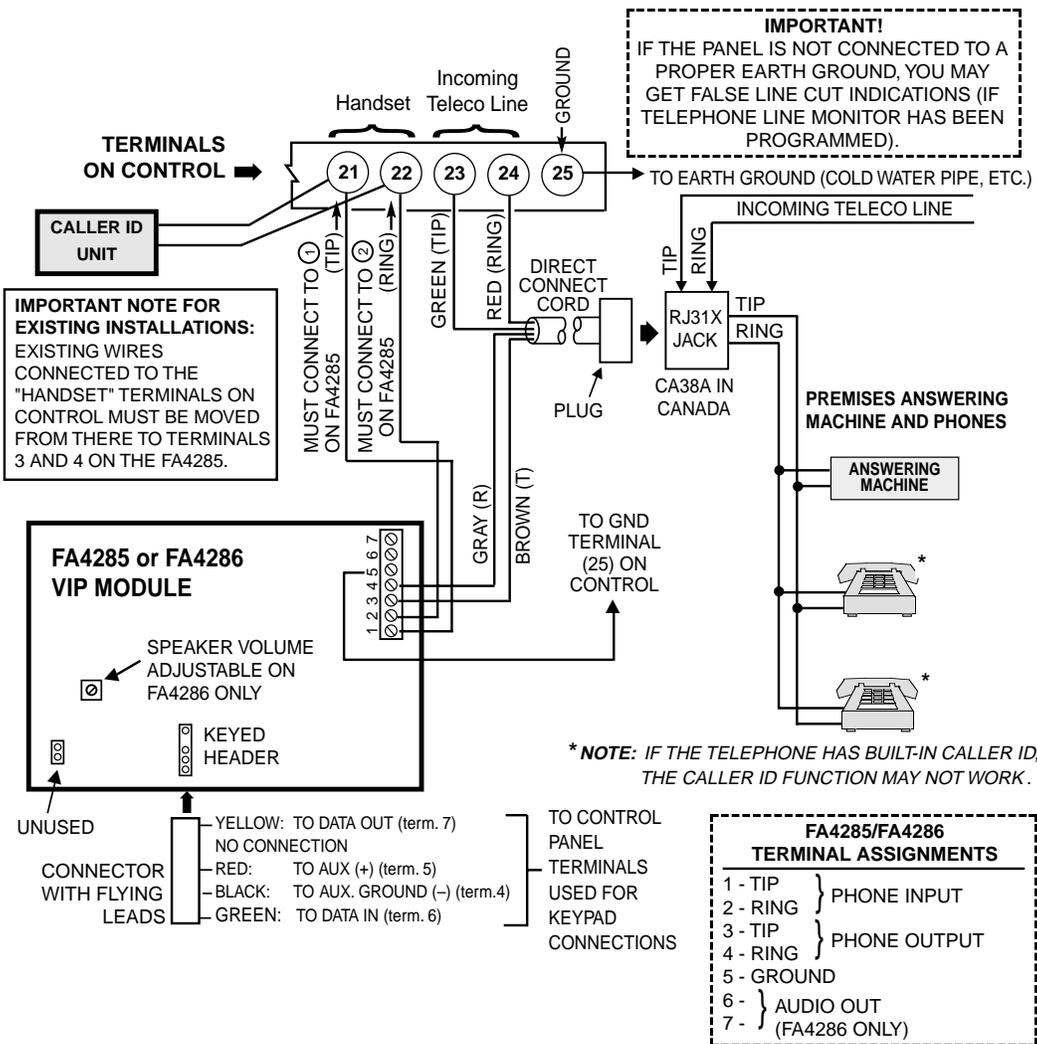

Figure 16. FA4285/FA4286 VIP Module Wiring Connections
1. Make $\pm 12\text{VDC}$, data in, and data out connections from the phone module to the control, using the connector cable supplied with the phone module (see *Figure 16*).
If the telephone system on the premises includes a Caller ID unit, connect the unit directly to the Handset terminals (21 and 22) on the control, as shown in **Figure 16. FA4285/FA4286 VIP Module Wiring Connections** that follows.